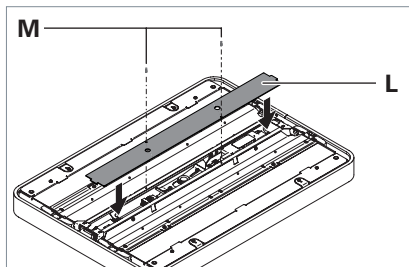

Fig. 12: Mounting the cover.
- Place the cover **L** on the light head, see Fig. 12.